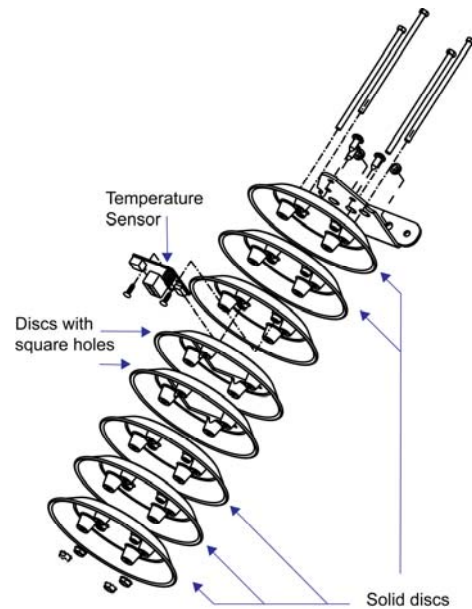

Figure 7: Temperature Sensor Diagram
1. Open the temperature sensor housing by removing the four nuts from the bottom and then removing the five bottom disks. Refer to **Figure 7** for details on sensor housing disassembly.